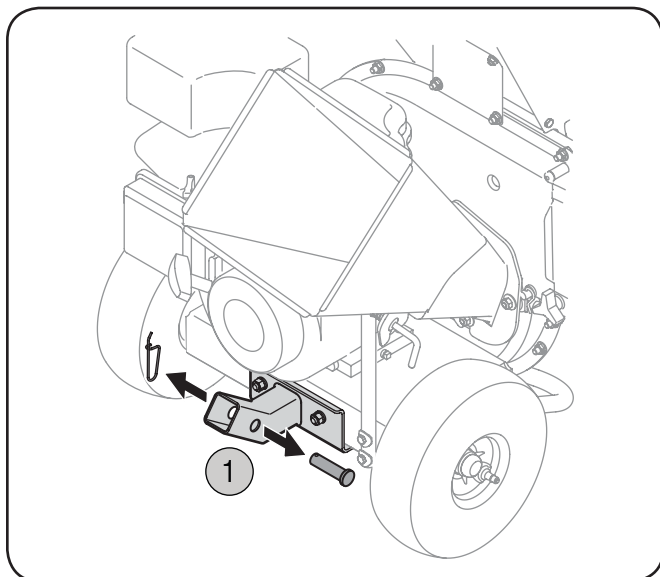

Figure 3-3
1. Remove the spring pin and clevis pin from the end of the tow bar receiver. See Fig. 3-3.